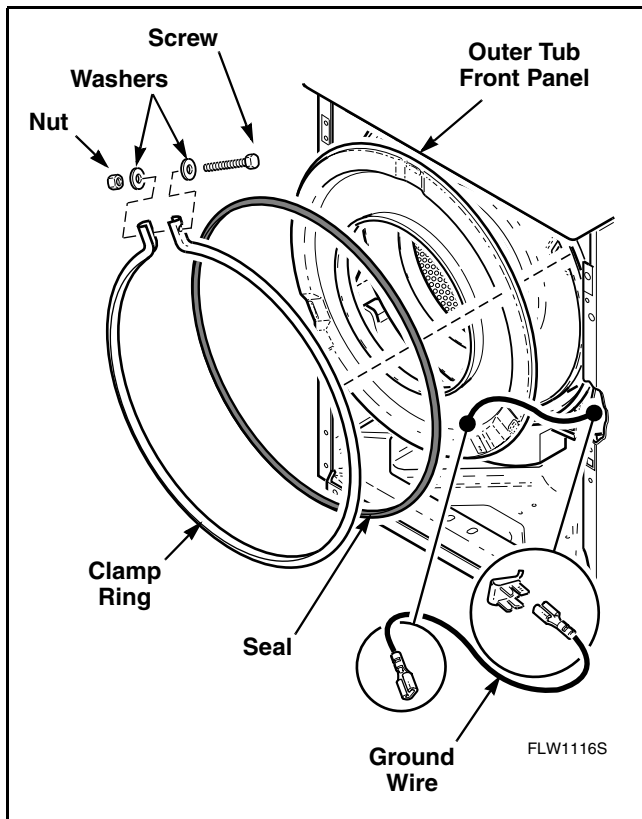

Figure 21
- n. Disconnect ground wire from outer tub front panel. Refer to *Figure 21*.
- o. Remove nut, washers and screw holding clamp ring to outer tub front panel. Refer to *Figure 21*.
- Disconnect ground wire from outer tub front panel. Refer to *Figure 21*.
- Remove nut, washers and screw holding clamp ring to outer tub front panel. Refer to *Figure 21*.